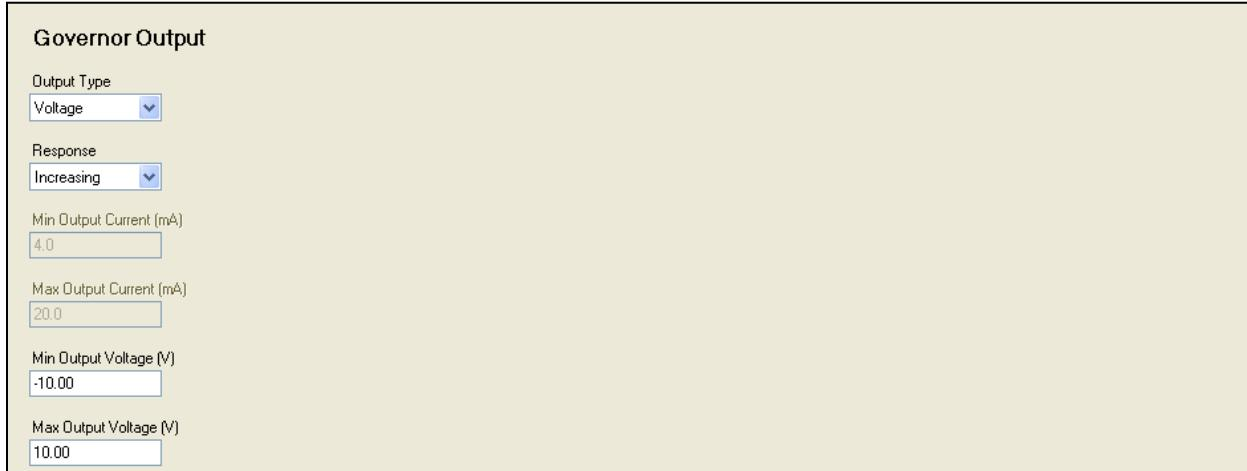

Figure 6-67. Settings Explorer, Multigen Management, Governor Output Screen
- d. Min Output Voltage (V) and Max Output Voltage (V). If the *Output Type* is *Voltage*, these parameters must be configured. Set the minimum and maximum voltage to a range equal to the voltage bias input range for the voltage regulator. The range on these parameters is -10V to +10V.
11. Next click on *Governor Output* and select the appropriate bias output parameters as required by the speed governor. These parameters are identical to those of the AVR output, and should be set in a similar manner. See Figure 6-67.